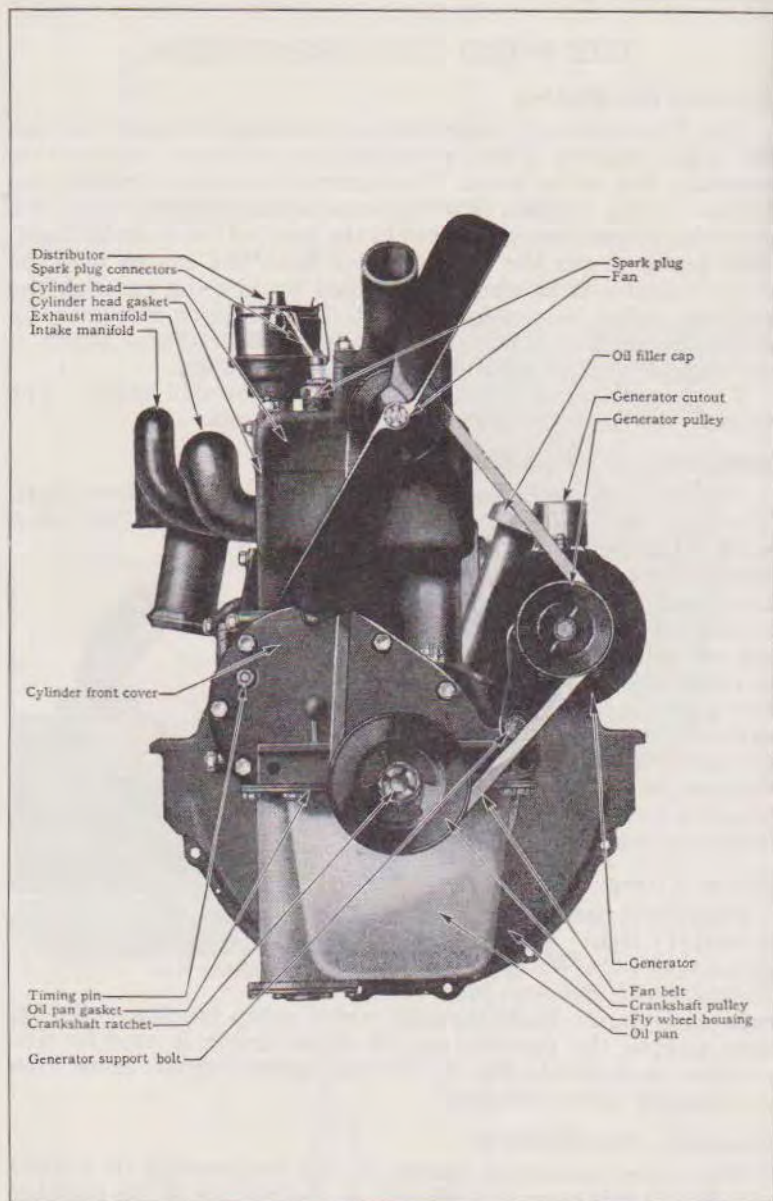

Figure 10
3. Screw out timing pin located in timing gear cover (see Fig. 10) and insert opposite end of pin into opening.